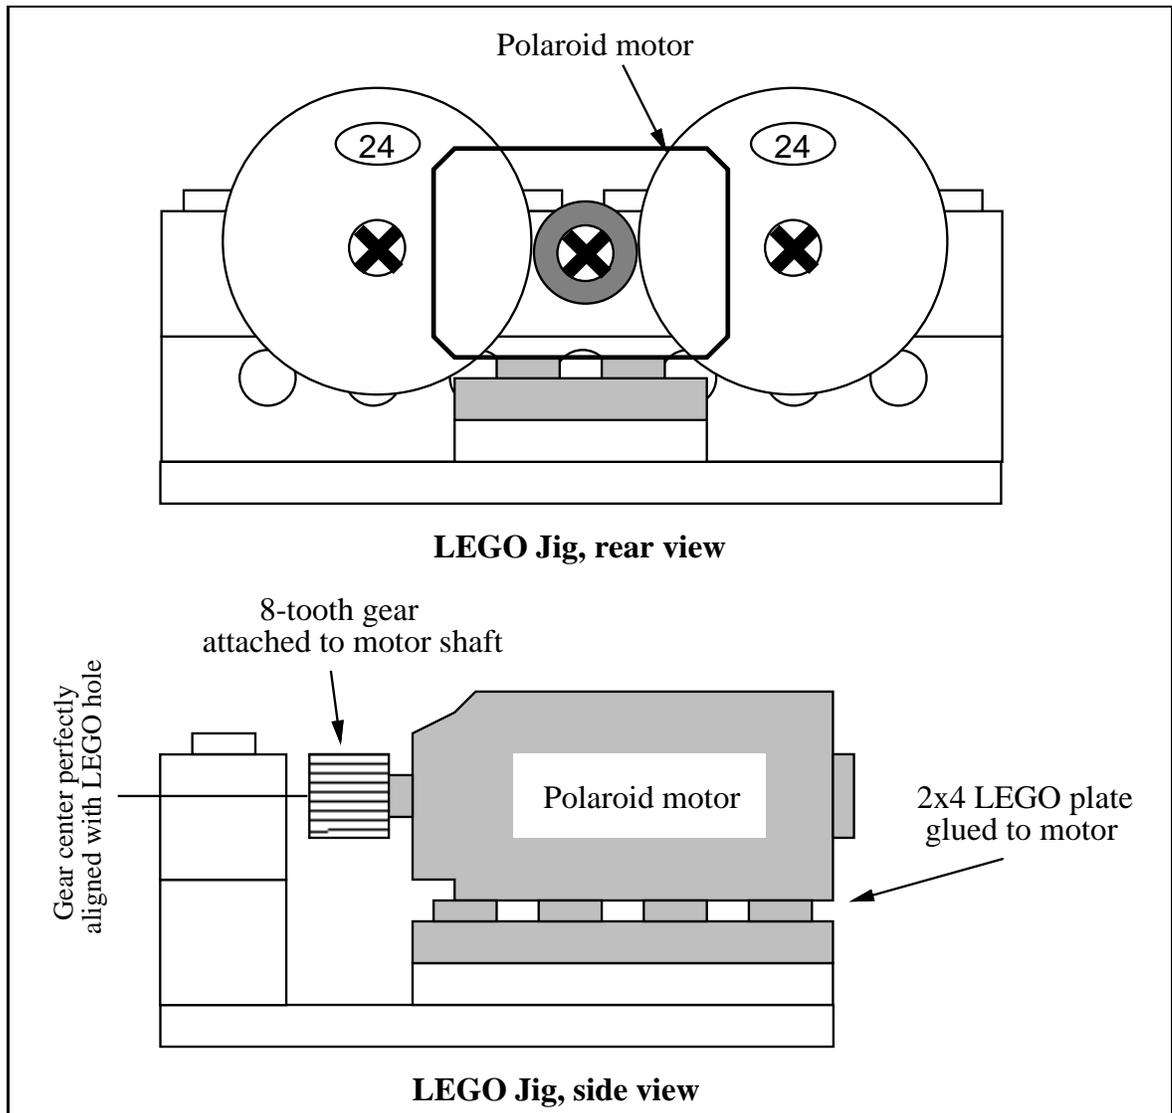

Figure 1.32: LEGO Jig for Mounting Polaroid Motor
This platform or jig is shown in Figure 1.32. It is constructed from two  $2 \times 8$  beams, one  $6 \times 8$  flat plate, one  $2 \times 4$  plate, two 24-tooth gears, and two axes.
- Assemble the jig as shown in Figure 1.32. A second 2×4 plate will be mounted to the motor.